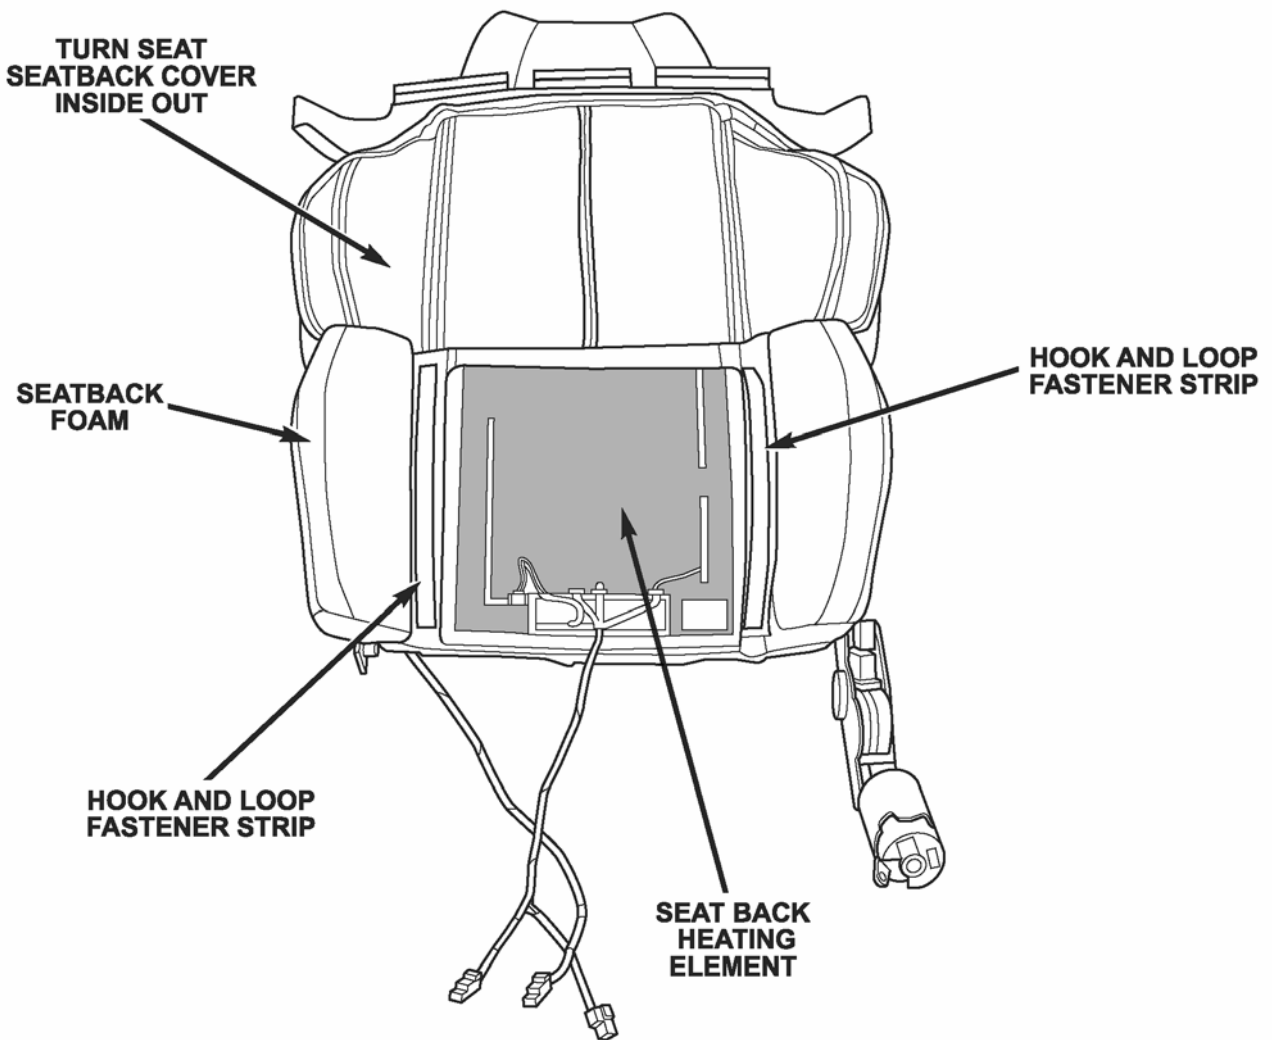

Figure 7
36. Peel off the paper on the adhesive backed heating element and attach the new seatback heating element onto the seatback foam as shown in Figure 7.